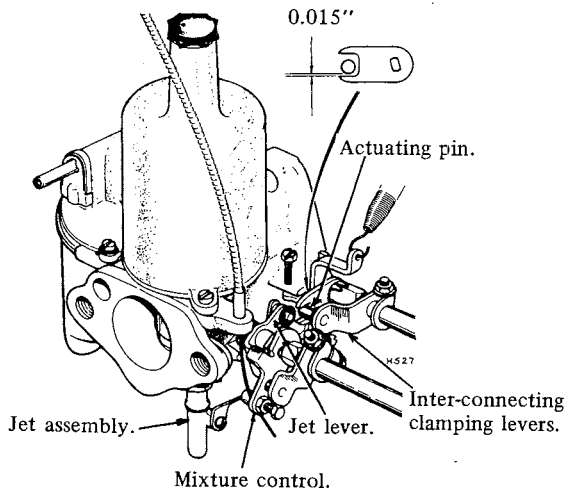

Fig. 16. Carburettor fork lever adjustment.
- (a) Set the throttle inter-connection clamping levers so that the actuating pins are 0.015" away from the lower edge of the fork (see Fig. 16). Ensure that there is a total of  $\frac{1}{32}$  end-play between the inter-connecting clamping levers and the throttle nuts.